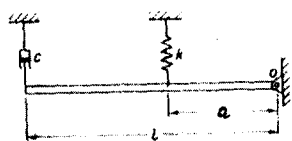

Fig. Q10a
10. a) A rigid uniform bar of mass m and length l is pinned at O and supported by a spring and viscous damper as shown in Fig. Q10a. Measuring θ from static equilibrium position, determine the equation for small θ , the equation for the undamped natural frequency, and the expression for critical damping.